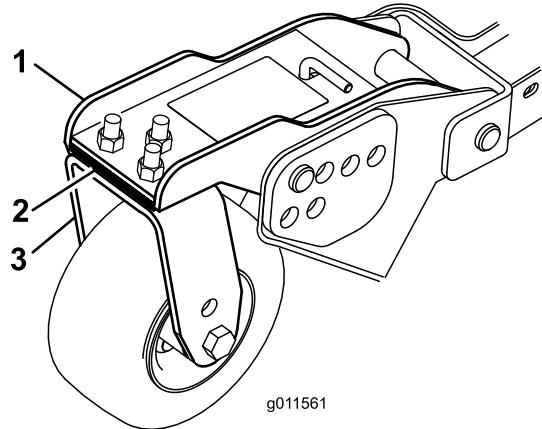

Figure 32
Rotate the blade of each spindle until the ends face forward and backward. Measure from the floor to the front tip of the cutting edge. Adjust the 3 mm (1/8 inch) shims on front caster arm(s) to match the height-of-cut decal (Figure 32). For the outside blade spindle only, refer to Adjusting the Mower-Deck Pitch \(page 72\).
3. If the inside edge of the side mower deck is too high relative to the outside edge of the front mower deck, remove a 3 mm (1/8 inch) shim from the bottom of the front, inside caster arm on the side mower deck (Figure 32).